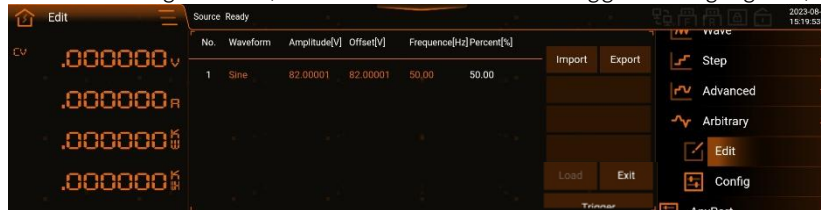

Figure 191 Arbitrary Wave Programming Example Two
- 3) Click 'Load' at the bottom right corner, at this time both 'Exit' and 'Trigger' are highlighted, see Figure 191